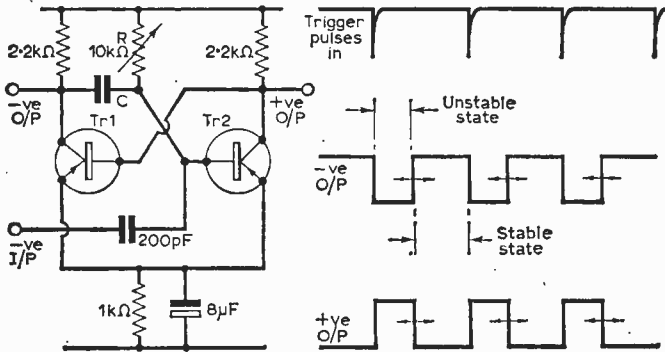
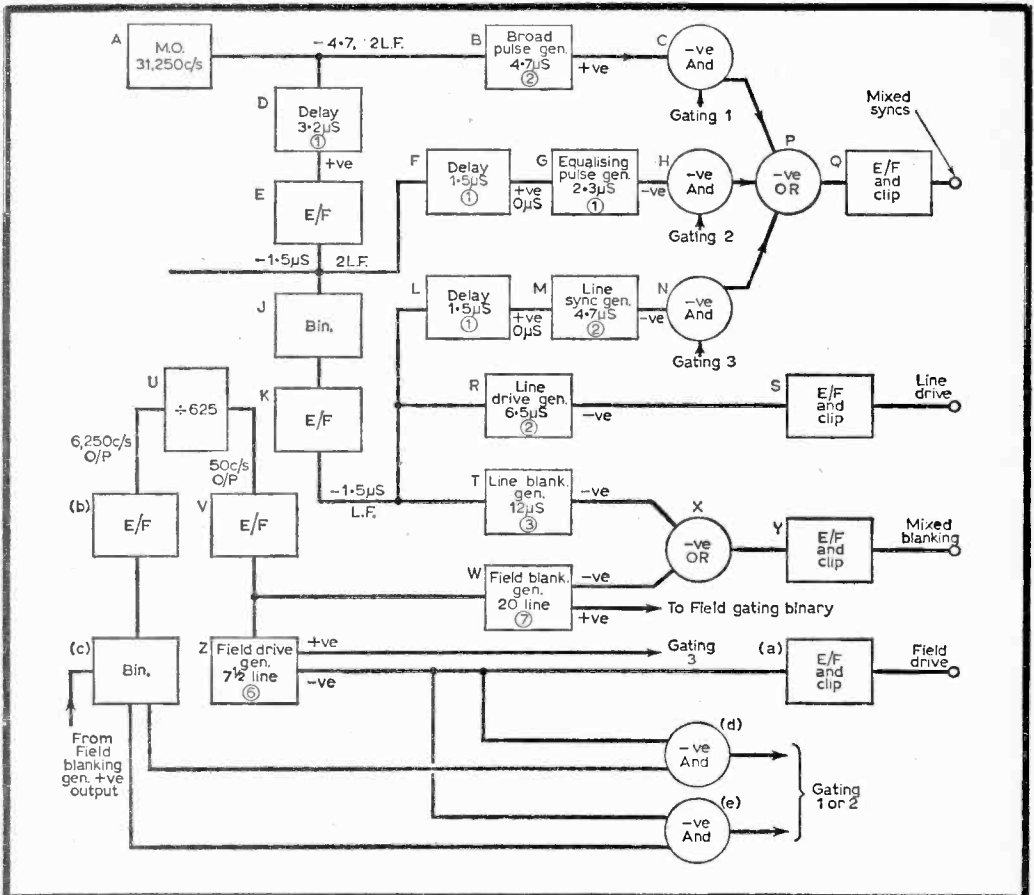
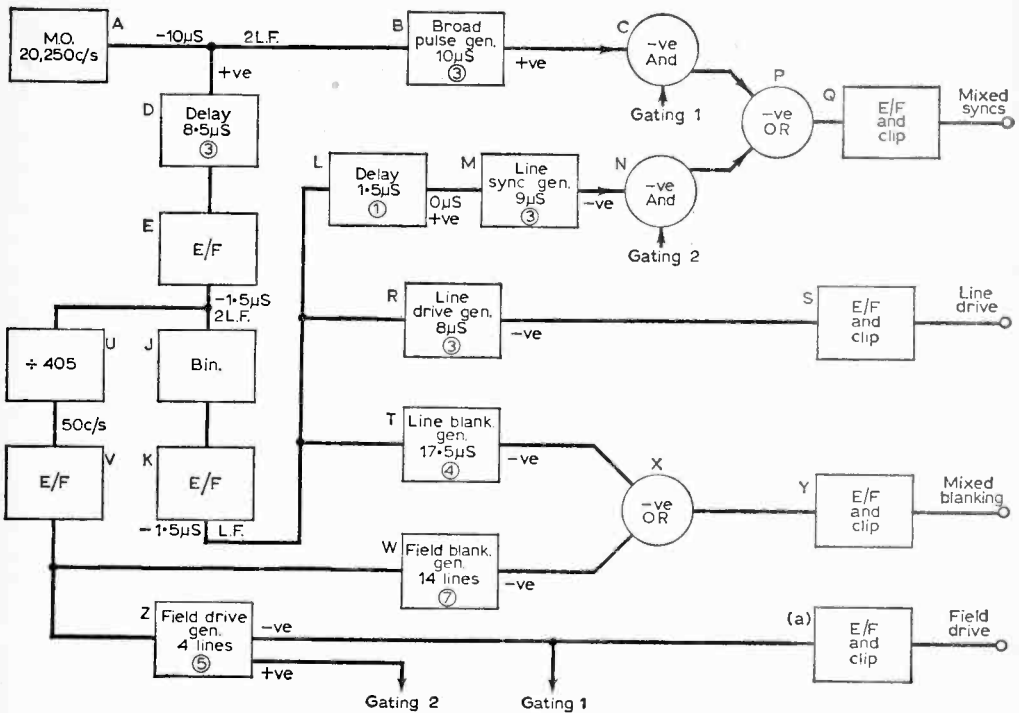

Fig. 36—Circuitry and waveforms of the monostable multivibrator.
Fig. 42—(above) Block schematic of the 625 line pulse generating system.
Fig. 44—Block schematic diagram of the 405 line pulse generating system
The next type of circuit is the monostable multivibrator circuit (Fig. 36). This multivibrator has one stable and one unstable state. The stable state is with Tr1 conducting and Tr2 cut off. If a negative going input pulse is received on the base of Tr2 it starts this transistor conducting, so its collector, and hence the base of Tr2, goes positive, so that Tr1 cuts off and its collector goes negative, driving Tr2 on harder. Capacitor C discharges through resistor R and after a delay the voltage at the base of Tr2 is positive enough to start to bias Tr2 off, which results in a negative rise at
Table 1—Details of the values of C (Fig. 36). See text for use.
the collector and hence the base of Tr1, and the circuit returns to its stable state. This state continues until another pulse is received at the input. The output waveforms are shown in Fig. 36.
In Fig. 42, twice line frequency pulses from the master oscillator (A) feed a 4.7 micro-second multivibrator (B). This produces a broad pulse, the leading edge of
The block schematic diagram (Figs. 42 and 44 for the two types of pulse generator) shows the functions of each part of the circuit. As may be imagined a complete circuit diagram would take up far too much room to reproduce satisfactorily here. The letter by each block refers to the text numbers in the blocks of each multivibrator (monostable unless stated) refer to the Table I Fig. 36. The exact period of each multivibrator of output from the multi-vibrator is as shown in Fig. 36. The exact period of each multi-vibrator is set by adjustment of R to the time shown in the block. The times against the inter-connections are relative to the start of line syncs. (as in Fig. 40) and the frequency is indicated by line frequency (LF) or twice line frequency (2LF) or 50c/s for field frequencies.
The 405 line pulse generator (Fig. 44) is similar in basic design to the 625 line pulse generator, the difference being in the timing of the different mixed sync circuitry. Here only 4 lines of broad pulses comprise field syncs, and these are gated by the field drive waveform. Except for the timings, the rest of the circuits perform a similar function to the 625 version, so similar circuit blocks are marked with the same letters as Fig. 42.